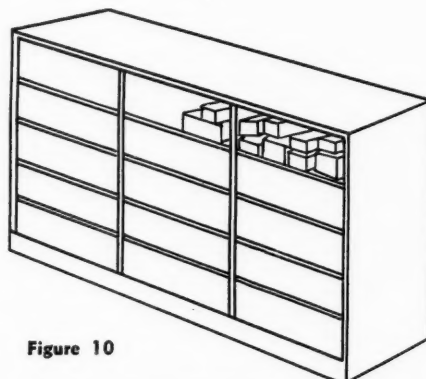

Figure 10
4. The use of wooden or steel shelving sections for the storing of the cuts wrapped in bundles, each bundle marked with the job number. See Figure 10.